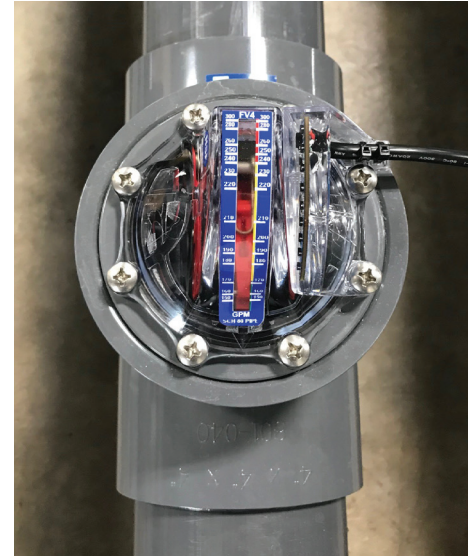

Fig 2.4
6. Referring to Fig.2.4 (right), identify the required side of the AcuFlow to mount the AcuFlow sensor to, ensuring that the sensor is fully seated and the screw holes line-up with those on the AcuFlow lid assembly.
2. Unless previously done in section 6.2, remove the two AcuFlow lid screws that will align with the hole mounting tabs for the sensor (refer to Fig.2.4 on pg. 7).
3. Mount the sensor, ensuring that it is fully seated and the screw holes line-up with those on the AcuFlow lid assembly (see Fig.2.4).